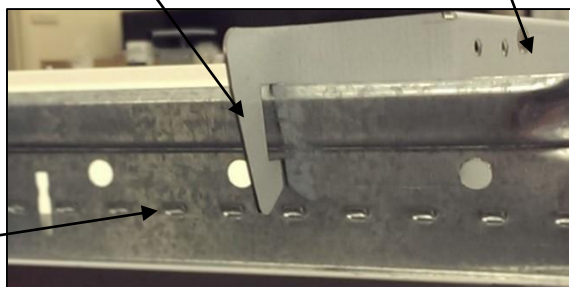

Figure 2: Built In T-Bar Clip
3. Bend the built in T-Bar clips over the T-Bar ceiling to secure the fixture to the T-Bar ceiling or use hanger wire hole as shown in Figure 2.